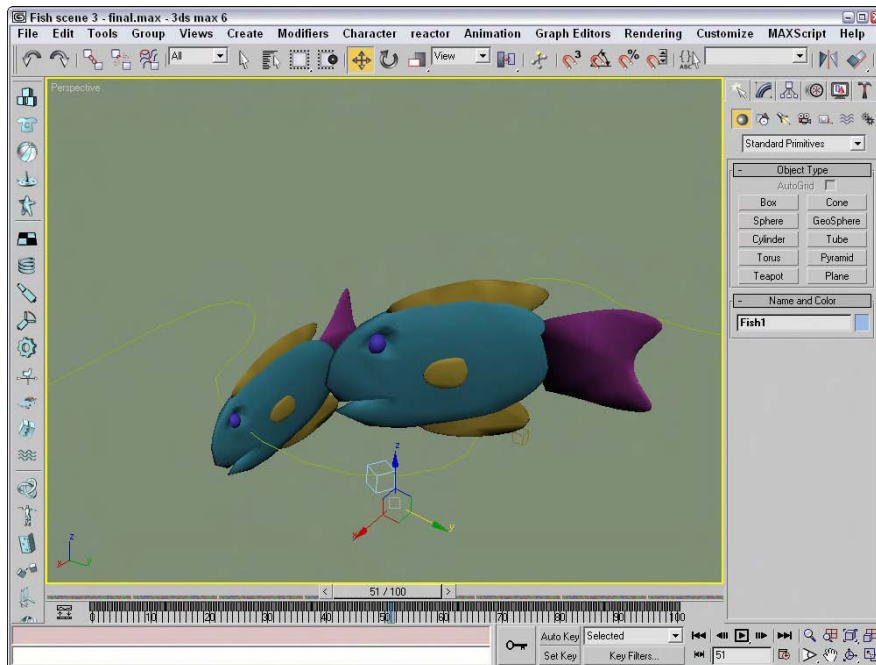

Figure 48-13: Both fish swimming together
2. Choose File ⇨ Evaluate All, or press Ctrl+E to run the script again, and then animate it. Figure 48-13 shows both fish swimming merrily.